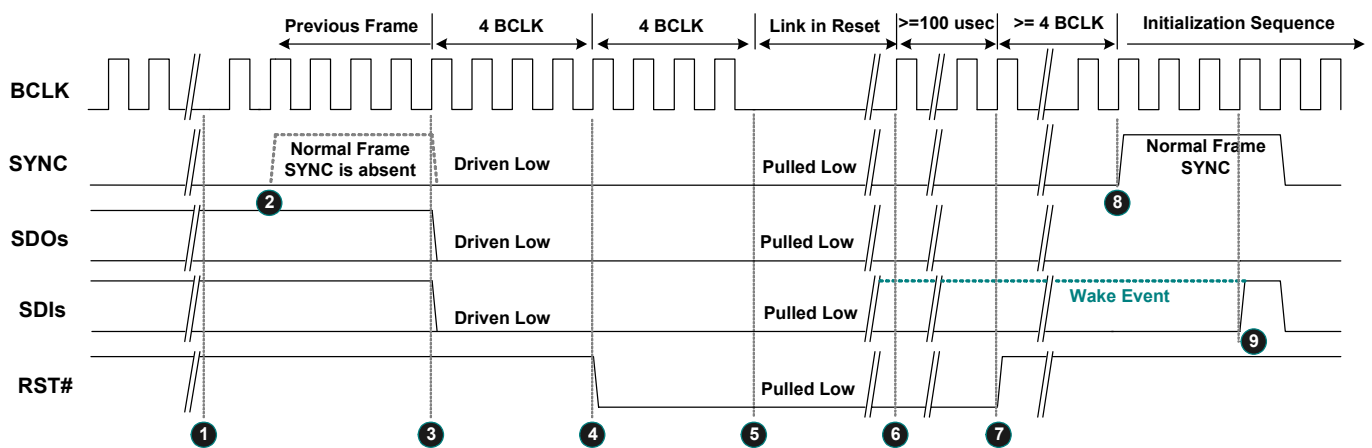

Figure 15. Link Reset Timing
3. Software initiates power management sequences. Figure 15, page 20, shows the 'Link Reset' timing including the 'Enter' sequence (❶~❺) and 'Exit' sequence (❻~❾)